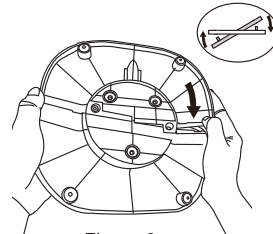

Figure 3
3. Press two halves of the base, as in Figure 3, to interlock them together. (Figure 3)